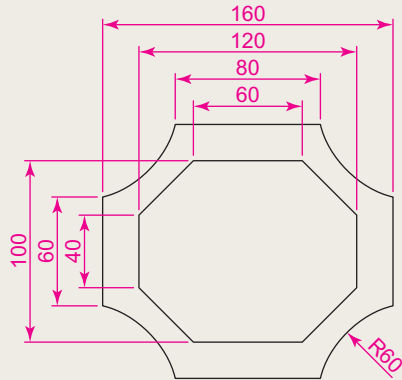

Fig. 3.53 Exercise 9
9. Construct the drawing Fig. 3.53 using the **Line** and **Arc** tools. Then, with the aid of the **Multiple** prompt of the **Edit Polyline** tool change the outlines into plines of **Width = 1**.